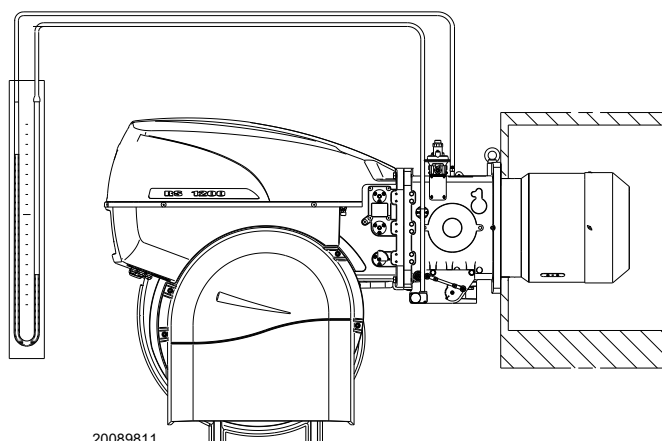

Fig. 26
- Fit a U-type pressure gauge or a differential pressure gauge (Fig. 26), with socket (+) on the gas pressure of the pipe coupling and (-) in the combustion chamber.
The arrival of gas at the pipe coupling is indicated by the U-type pressure gauge (Fig. 26).